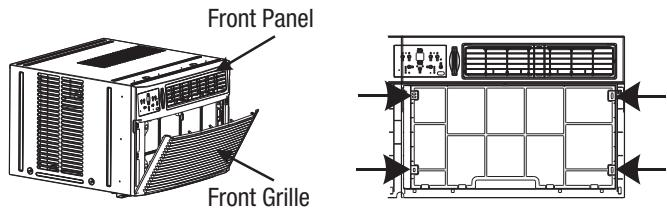

FIG. 1
1. Pull down front grille and remove filter. (See Fig. 1.)